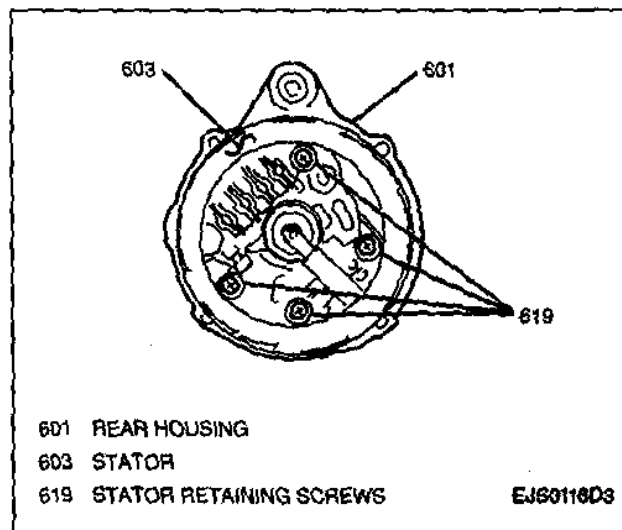

Figure 11—Stator Retaining Screws
13. Four retaining screws and stator from rear housing (Figure 11).